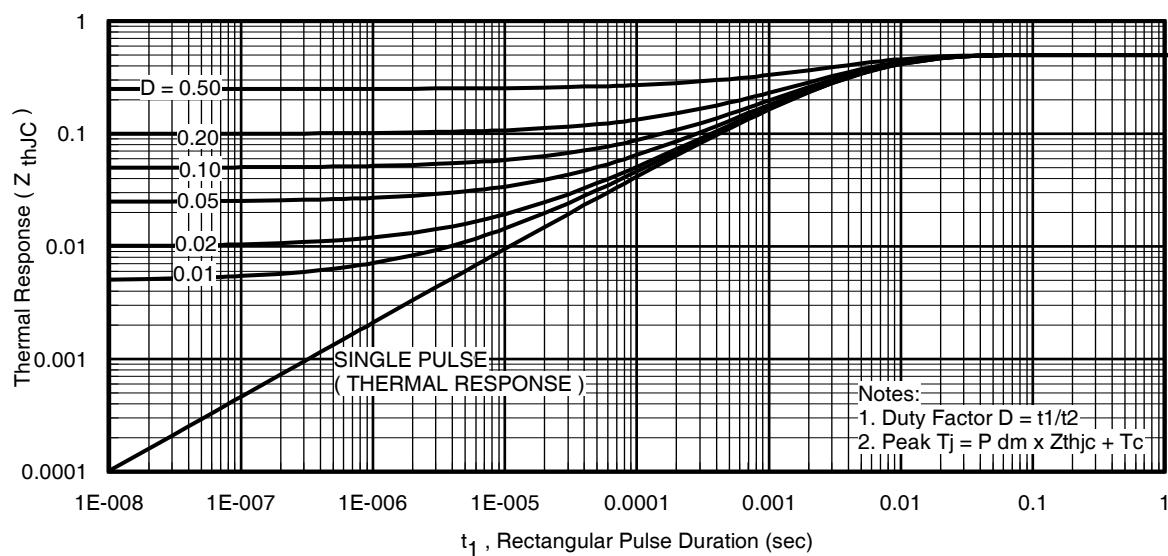
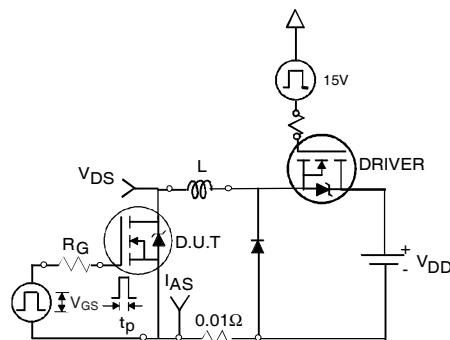

Fig 11. Maximum Effective Transient Thermal Impedance, Junction-to-Case
Fig 12a. Unclamped Inductive Test Circuit
- ① Repetitive rating; pulse width limited by max. junction temperature. (See fig. 11).
- ② Limited by $T_{J\text{max}}$, starting $T_J = 25^\circ\text{C}$, $L=0.24\text{mH}$, $R_G = 25\Omega$, $I_{AS} = 75\text{A}$, $V_{GS} = 10V$. Part not recommended for use above this value.
- ③ $I_{SD} \leq 75\text{A}$, $di/dt \leq 220\text{A}/\mu\text{s}$, $V_{DD} \leq V_{(\text{BR})\text{DSS}}$, $T_J \leq 175^\circ\text{C}$.
- ④ Pulse width $\leq 1.0\text{ms}$; duty cycle $\leq 2\%$.
- ⑤ $C_{oss \text{ eff.}}$ is a fixed capacitance that gives the same charging time as C_{oss} while V_{DS} is rising from 0 to 80% V_{DSS} .
- ⑥ Limited by $T_{J\text{max}}$, see Fig.12a, 12b, 15, 16 for typical repetitive avalanche performance.
- ⑦ This value determined from sample failure population. 100% tested to this value in production.
- ⑧ This is applied to D²Pak, when mounted on 1" square PCB (FR-4 or G-10 Material). For recommended footprint and soldering techniques refer to application note #AN-994.
- ⑨ Max $R_{\text{DS(on)}}$ for D²Pak and TO-262 (SMD) devices.
- ⑩ TO-220 device will have an R_{th} value of $0.45^\circ\text{C}/\text{W}$.
3. Equation below based on circuit and waveforms shown in Figures 12a, 12b.
- $Z_{thJC}(D, t_{av})$ = Transient thermal resistance, see figure 11)